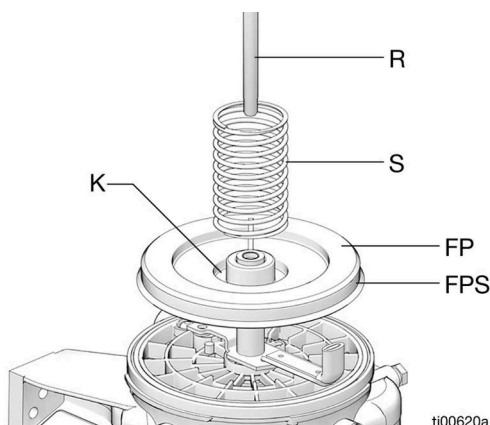

FIG. 11
2. Install follower plate (FP) on stirring paddle (D). Be sure the seal (FPS) is facing down (toward ricer plate) as shown in FIG. 11.